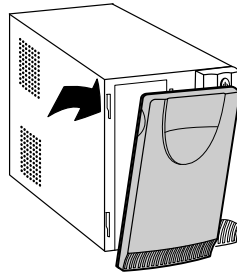

Figure 2. Removing the UPS Front Cover
2. Pull the top left corner forward and remove the UPS front cover (see Figure 2).